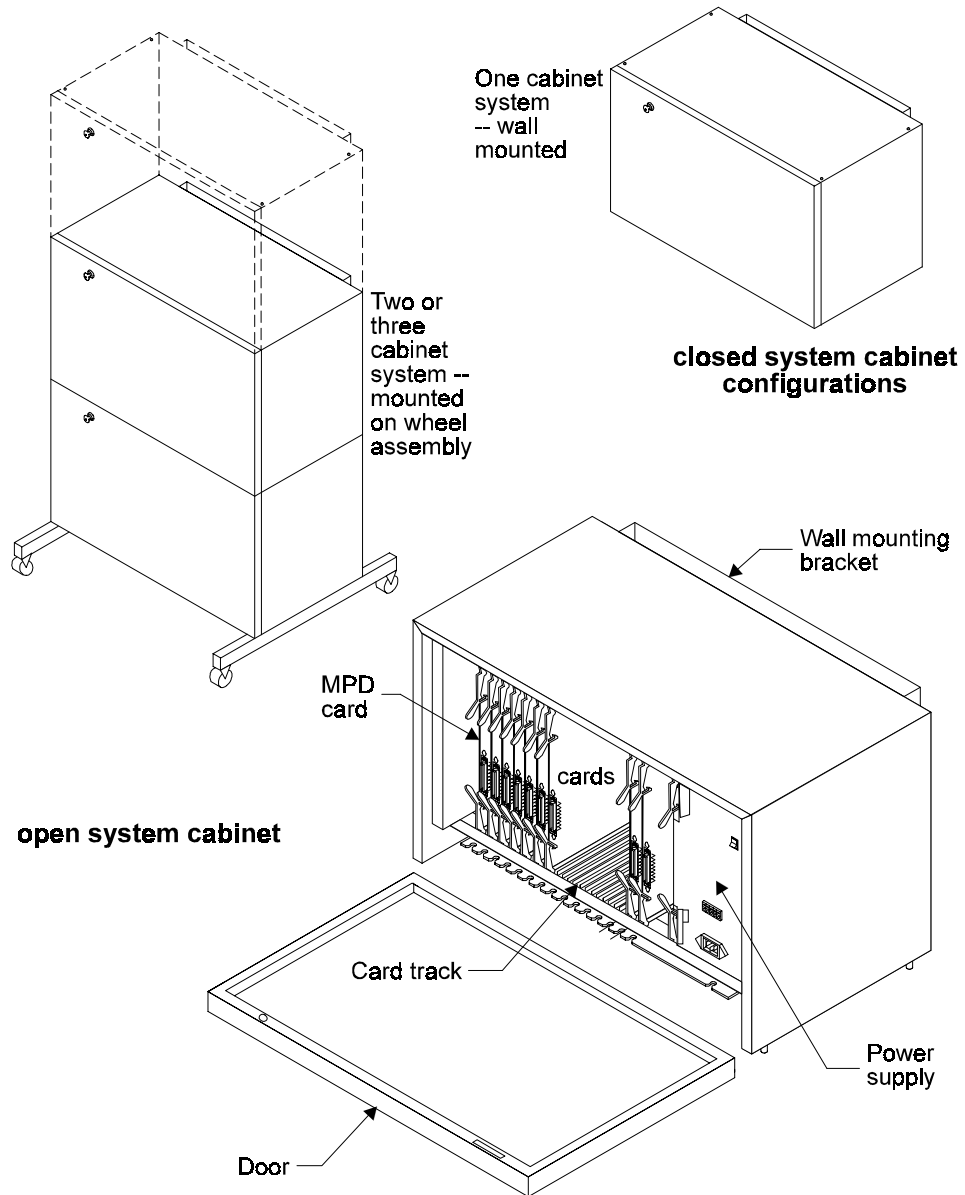

Figure 3-2 DIGITAL 400 system cabinet
- **Figure 3-2:** for the DIGITAL 400 system.
A single cabinet can be wall mounted, with the rear panel against the wall, as shown on the right side of **Figure 3-2**, above;
- One cabinet, two cabinet or three cabinet configurations can be stack mounted on a wheel assembly, as shown on the left side of **Figure 3-2** above.